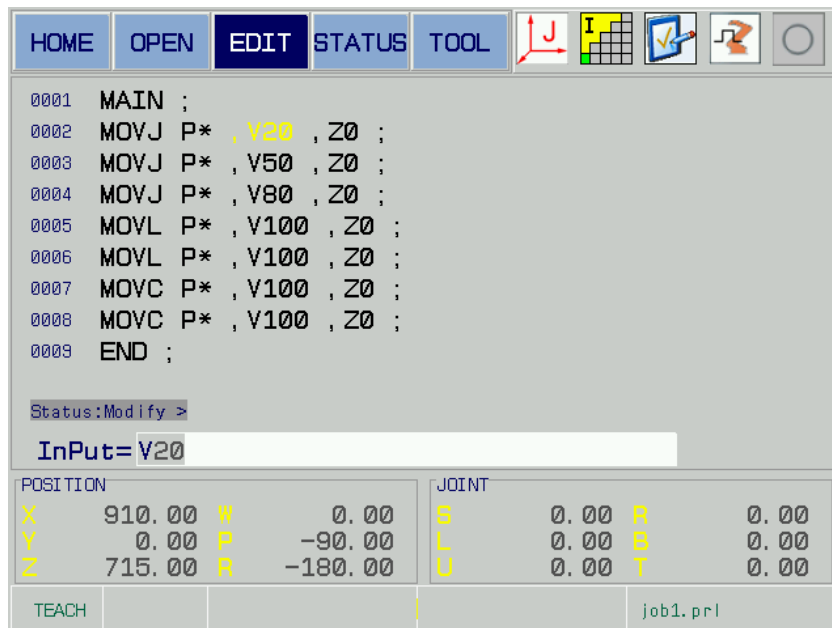

Fig. 5-46
1. Open the program “job1.prl”, then enter the program display page; shift to the edit method by [F3], and then select the speed parameter V20 (the 1st line) of MOVJ by [ALTER] and the up/down direction button; refer to the Fig. 5-46.